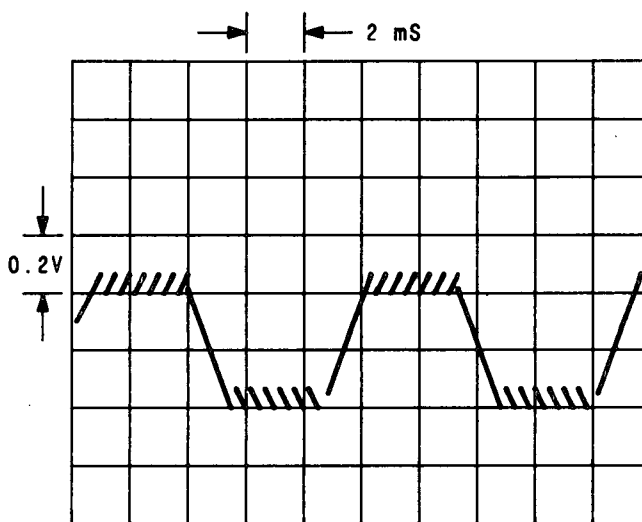

Figure 2. Oscilloscope display of TP3 (dc coupled), Signal Generator's frequency 950 MHz, modulation EXT FM 3 kHz deviation (100 Hz square wave).
4. Connect Chan 2 to TP3 (ΦM INPUT). Verify that the oscilloscope display shown in Figure 2 is correct. If the waveform is not correct continue with $\sqrt{2}$